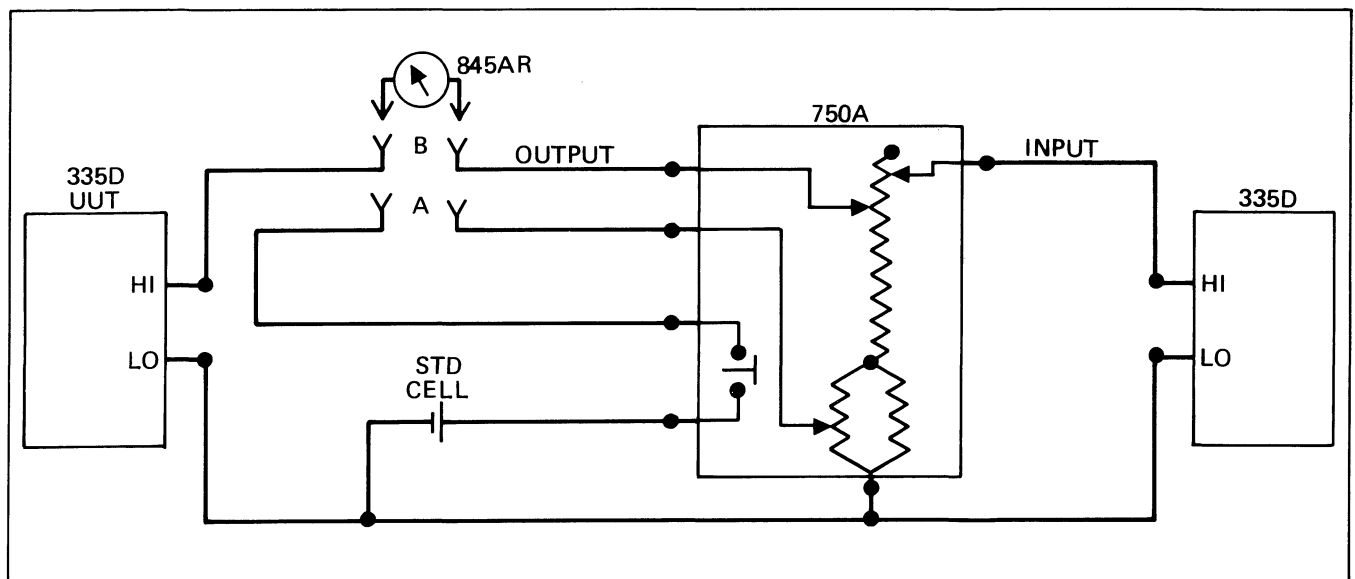

Figure 4-12. Equipment Connections for Range Calibration Checks
- Using the Model 7105A DC Calibration System or equivalent components, connect the equipment as shown in Figure 4-12.
- Referring to Figure 4-12, connect the 845AR in position A.
- Referring to Figure 4-12, connect the 845AR in position B.